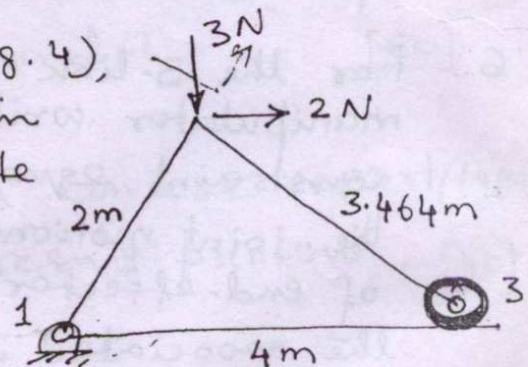

Fig. 4
2. For the 3-member truss (Fig. 4), find the reaction forces in locations 1 and 3. Formulate the problem through Finite Element Analysis, which can then be solved using a computer to verify your results. [45]